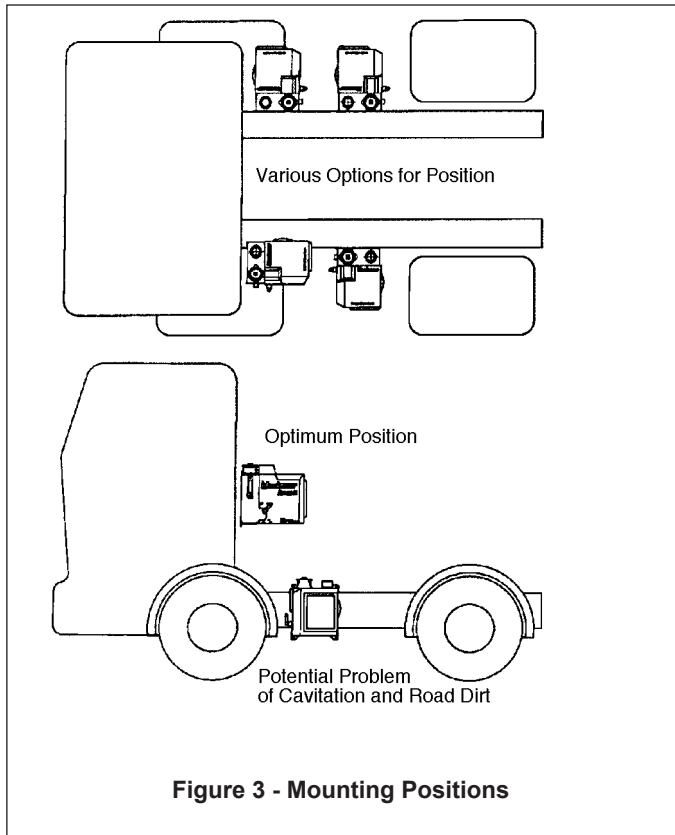

Figure 3 - Mounting Positions
3. The Hydrive should be mounted away from the wheels and road spray to protect the radiator from impact damage from stones and loose hoses etc. (See Figure 3, page 3.)